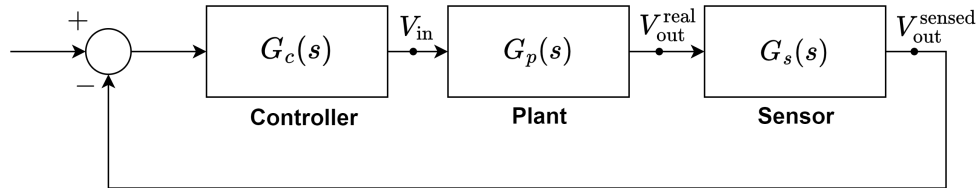

Figure 1: Feedback control system
- Suppose the system in Figure 1 is designed for operation at an ambient temperature  $T = 0$ . Is the overall closed-loop system stable at this temperature?
- Do you think it is reasonable to conclude that increasing operating ambient temperatures tend to push the closed-loop feedback control system in Figure 1 toward instability? Provide supporting arguments based on appropriate analysis from MATLAB simulation plots.